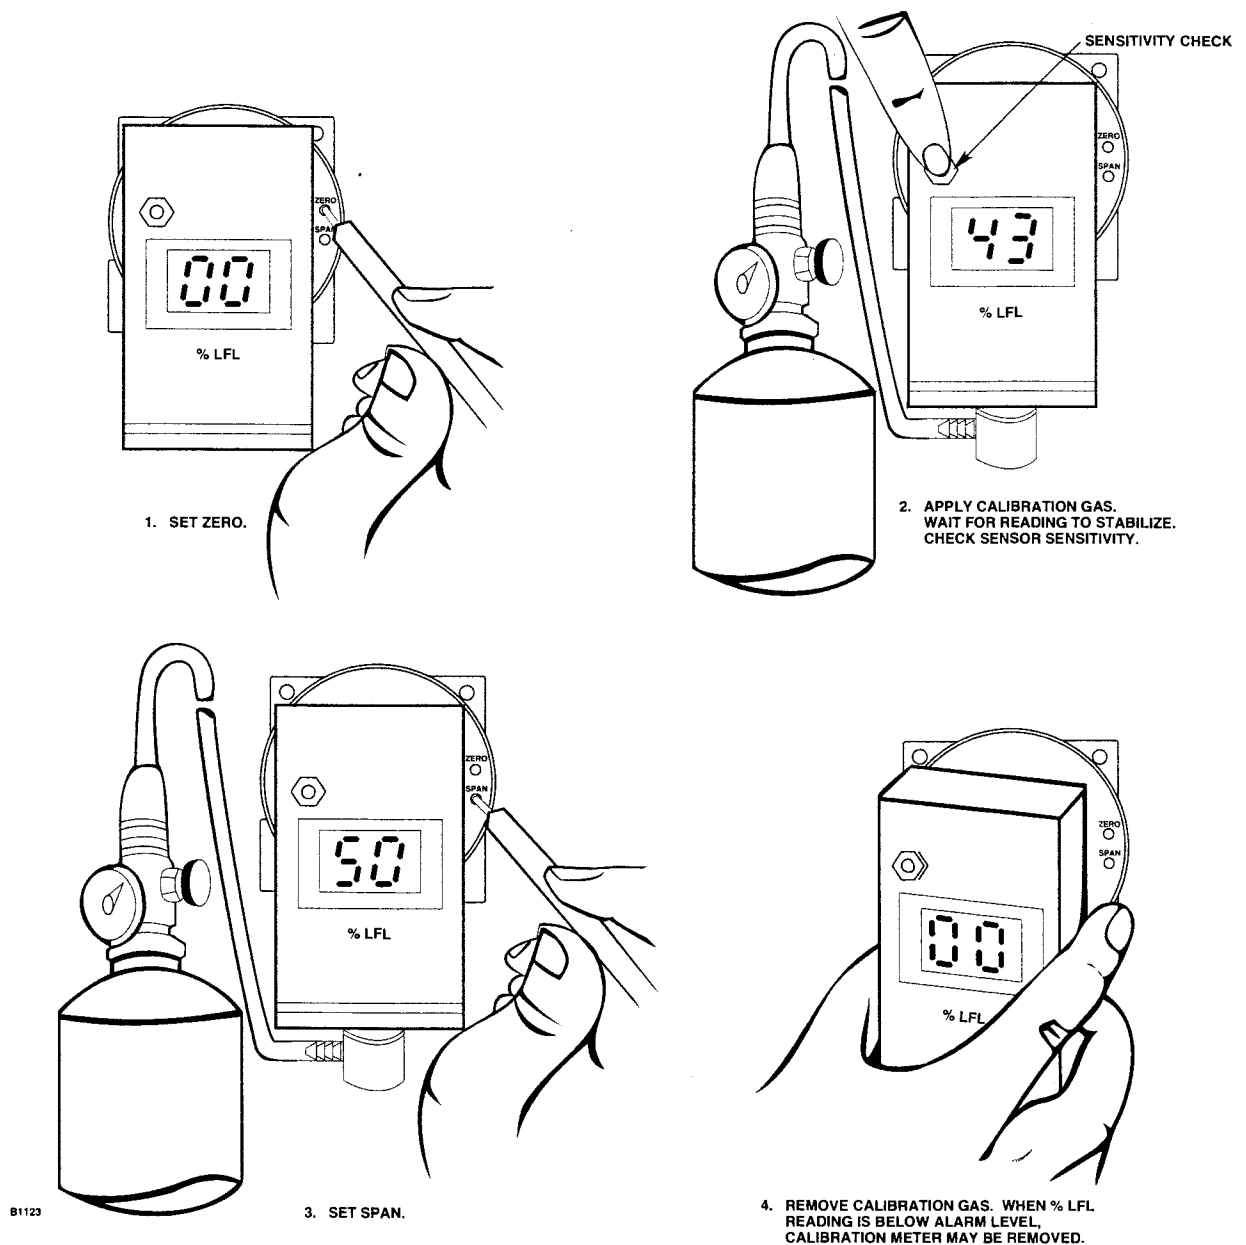

Figure 14—Calibration Sequence for K Series Transmitter
3. Adjust the Zero control with a screwdriver until the meter displays 0% LFL (Figure 14). If the possibility of background gases exists, purge the sensor with clean air to assure accurate calibration.